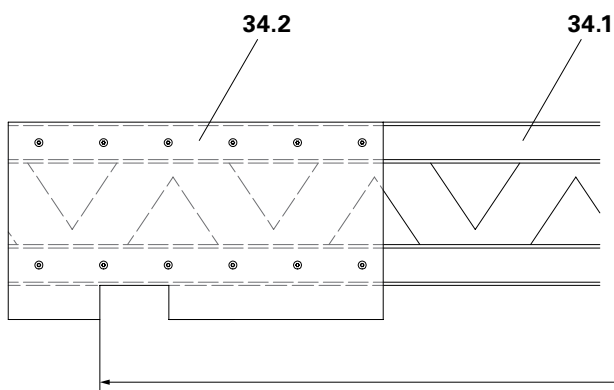

Fig. C1.05a
3. Fix one Head Piece flush onto one end of the Lattice Girder GT 24 (**34.1**) by means of screws (**56**). (Fig. C1.05a)